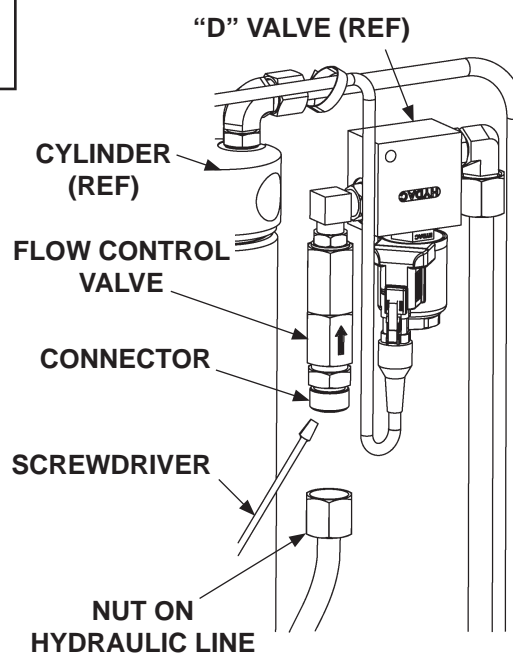

FIG. 77-1
1. Try lowering platform (activate **DOWN** toggle switch). Only the motor solenoid and “B” valve (**FIG. 76-1**) and “D” valve (on top of LH and RH columns) (**FIG. 77-1**) should be energized while lowering platform. Connect voltmeter to Terminal-1 and Terminal-2 on each valve shown in **FIG. 76-1A**. Correct indication for “B” and “D” valves is +11 to +12.6 volts DC. If indications are incorrect, check control switch and wiring to that valve (refer to **ELECTRICAL SYSTEM DIAGRAMS** section). Replace faulty wiring or control switch as required.
2. Lower the platform to the ground. At the top of each column, loosen nut and disconnect hydraulic line from connector on bottom of flow control valve (**FIG. 77-1**). Check if the flow control valves are contaminated. Try to move plunger with small screwdriver through bottom of connector (**FIG. 77-1**). Replace valve if contaminated or not working.